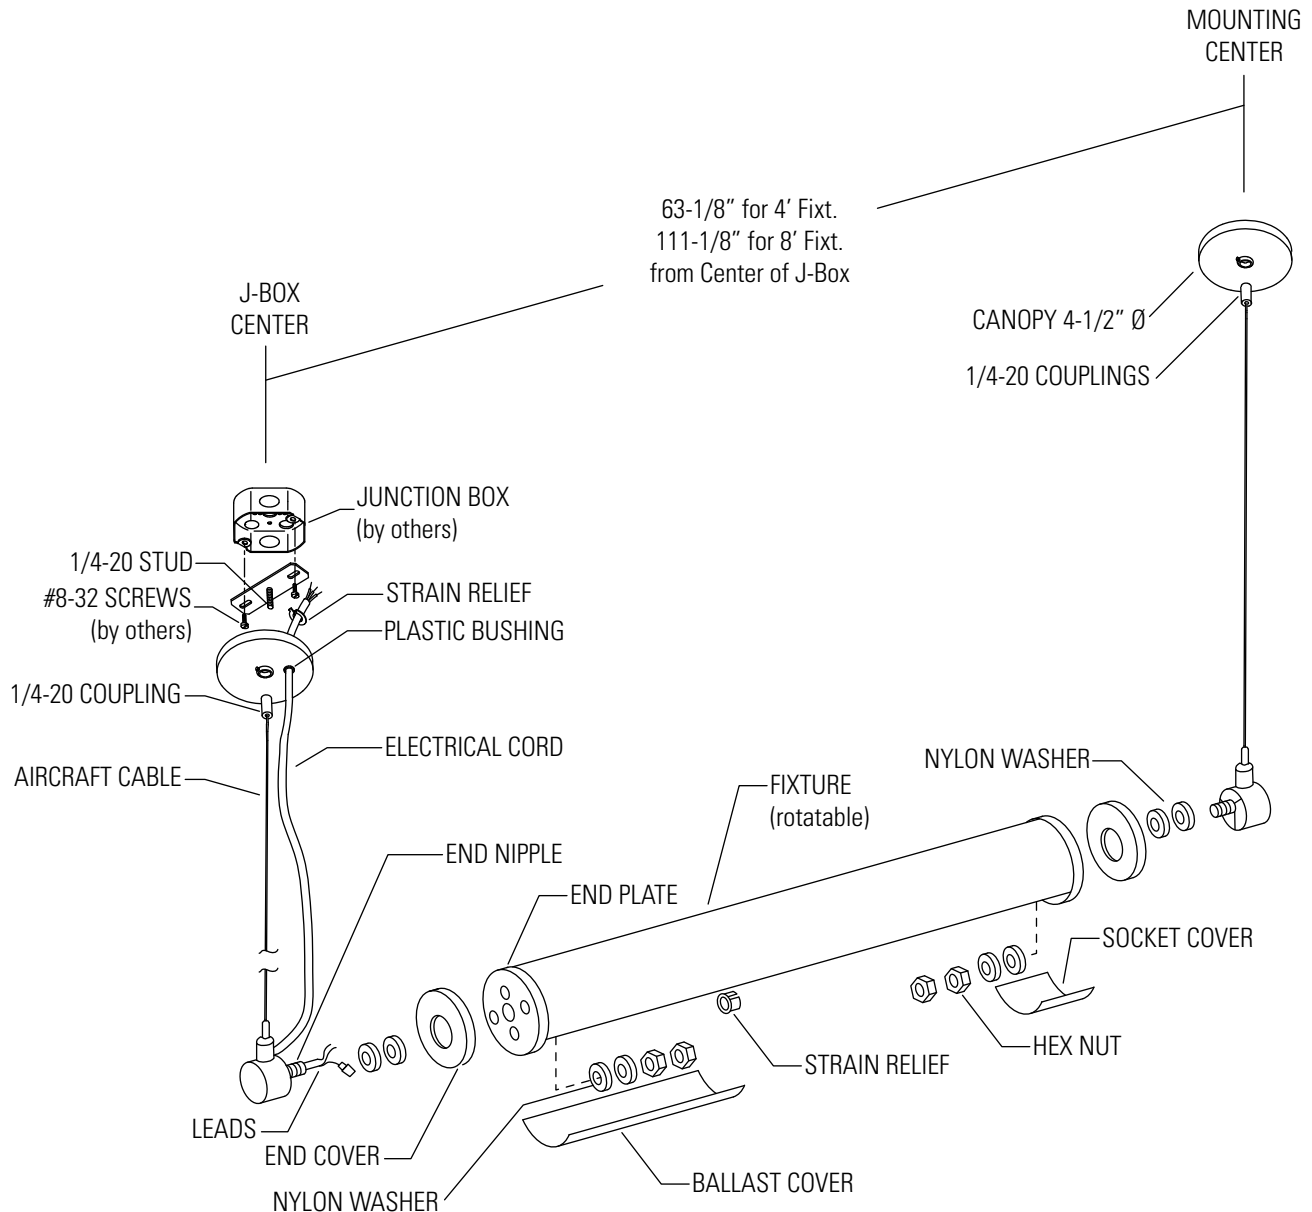

Figure 1
Step 3. Mark Off Mounting Center (Fig. 1)
Remove BALLAST COVER and SOCKET COVER. Place END COVER onto END PLATE. Slip END NIPPLE thru center hole in END PLATE. Place NYLON WASHER onto END NIPPLE with two (2) HEX NUTS. Leave loose. Make required electrical connections. Firmly tighten STRAIN RELIEF 1" away from 1/4" 20 STUD. (Fig. 1)
Turn FIXTURE (rotatable) to desired lamp direction and firmly fasten HEX NUTS. Replace BALLAST COVER and SOCKET COVER. (Fig. 1)